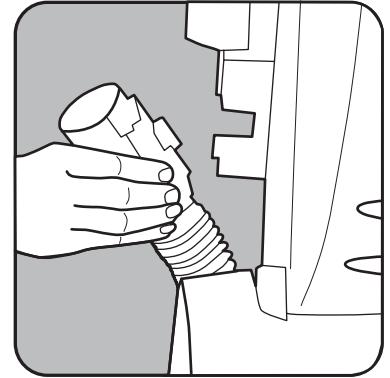

Fig. 1
2. Squeeze the tabs on both sides of the quick clean-out port and pull away from the vacuum (Fig. 1)